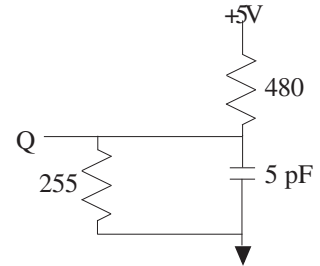

Fig. 2 Output Load Equivalent
- 'LZCE, 'LZWE, 'LZOE, 'HZCE, 'HZOE and 'HZWE are specified with CL = 5pF as in Fig. 2. Transition is measured ±200mV typical from steady state voltage, allowing for actual tester RC time constant.
- Chip enable (CE1, CE2) and write enable (WE) can initiate and terminate a WRITE cycle.